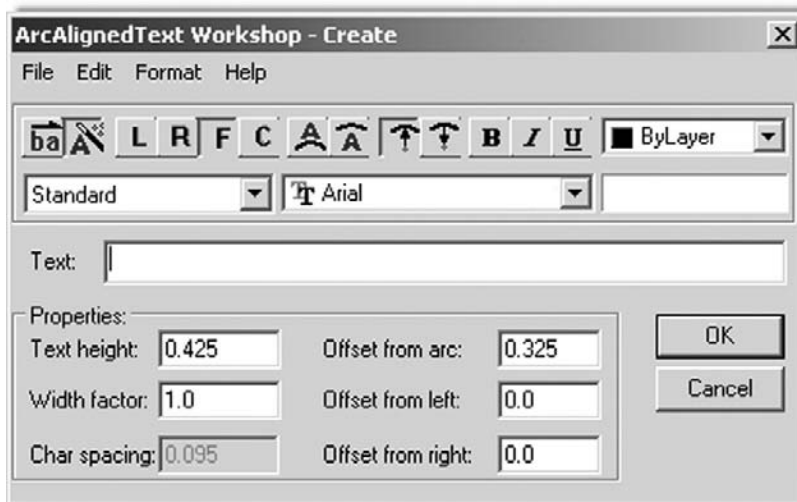

FIGURE 14.33
- **Arc-Aligned Text.** This command is used to tackle a problem that has never been addressed by AutoCAD prior to Express Tools' existence: how to create text that stretches around an arc. The procedure is to draw an arc and select this tool (or just type in `arcstext`), then select the arc. The dialog box seen in Figure 14.33 appears.